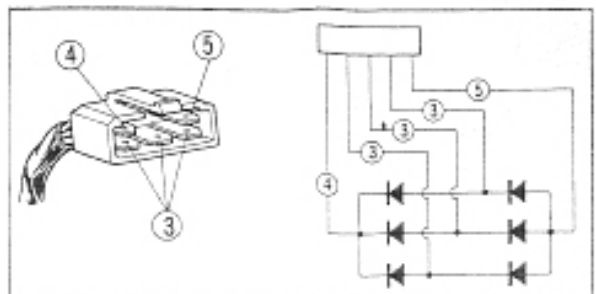

Fig. 5-18 ③ Yellow leads ④ Red/white lead ⑤ Green lead
Test each diode for forward and reverse continuity with an ohmmeter or test light. Touch one of the yellow wire coupling pins ③ with either of the test instrument leads, then touch the second test lead to pins ④ and ⑤ in turn. Note the continuity indication. Repeat this procedure at each of the two remaining yellow wire coupling pins ③ (Fig. 5-18).